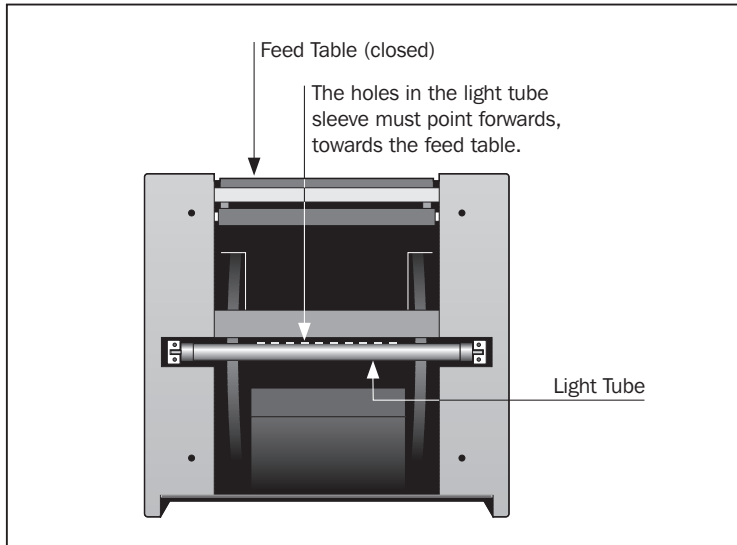

Figure 7: Bottom view of the scanner with the bottom panel removed
- The light tube is clearly visible, as shown in Figure 7. Hold each end of the light tube between your thumb and index finger. Rotate the light tube until it comes free and pull it away from the scanner. Note that the light tube sockets allow the tube to be rotated all the way around, but they click into position at each quarter turn. The light tube is locked in place in all but one of these four positions, so you may need to try up to three positions before the light tube comes free.